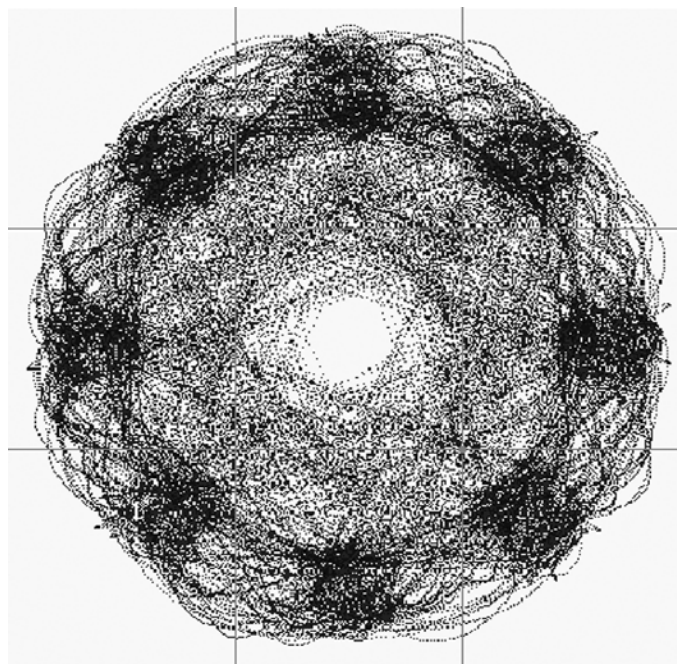

Figure 15. Quadrature modulation.
Quadrature Modulation. Today’s digital wireless communications networks are built on a foundation of quadrature (IQ) modulation technology. Two carriers — an in-phase (I) waveform and a quadrature-phase (Q) waveform that is delayed by exactly 90 degrees relative to the “I” waveform — are modulated to produce four states of information. The two carriers are combined and transmitted over one channel, then separated and demodulated at the receiving end. The IQ format delivers far more information than other forms of analog and digital modulation: it increases the effective bandwidth of the system. Figure 15 depicts quadrature modulation.